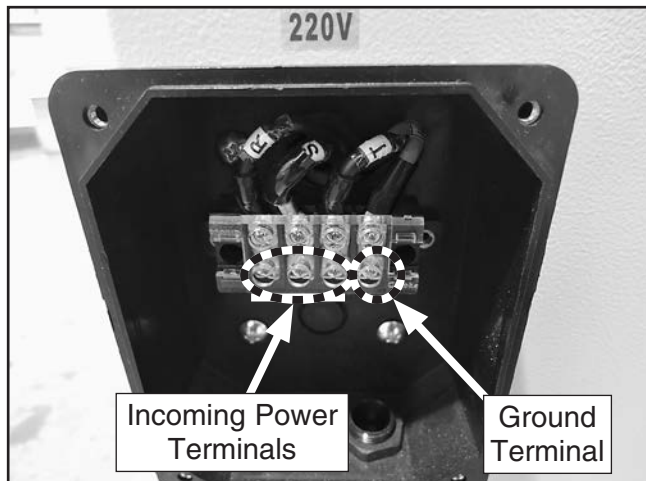

Figure 69. Terminal locations to connect incoming power wires and ground wire.
3. Connect ground wire, then connect incoming power wires to bottom terminals shown in **Figure 69**.